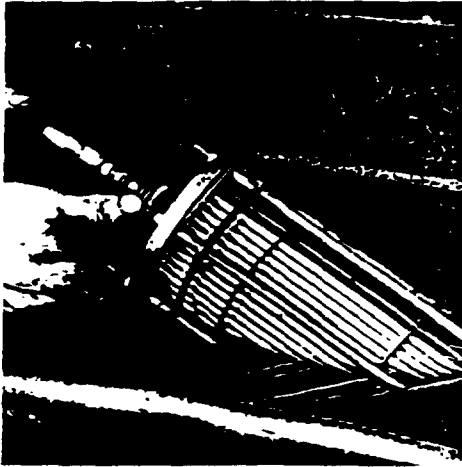

Figure 2-293. Water Testing Bundle
6. The oil cooler bundle should be checked for leaks by pressurizing with 80 PSI air pressure and submerging in water. If leaks develop, replace bundle with new. See Figure 2-293.